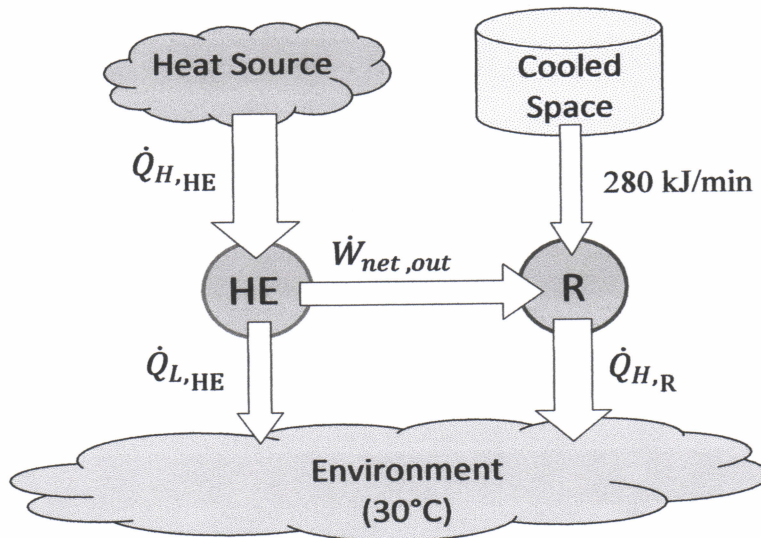

FIGURE Q6 (b)
- (b) A Carnot heat engine receives heat at 1000 K and rejects the waste heat to the environment at 30°C . The entire work output from the heat engine is used to drive a Carnot refrigerator as shown in **FIGURE Q6 (b)**. The refrigerator operates by removing heat from cooled space at -10°C , at a